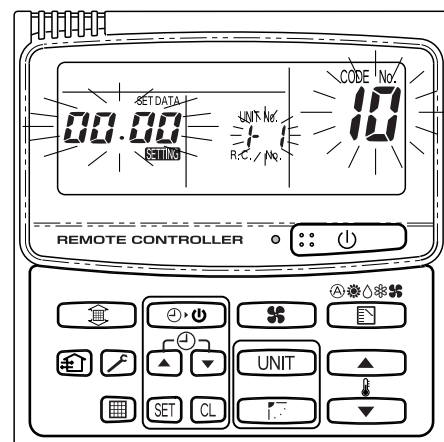

Fig. 9-6
- (1) Press the and buttons at the same time of the remote controller for more than 4 seconds.
- (2) Do not press **UNIT** button.
- (3) Once in this mode, the UNIT No., CODE No., No. of SET DATA and **SETTING** indications will flash on the display as shown Fig. 9-6.